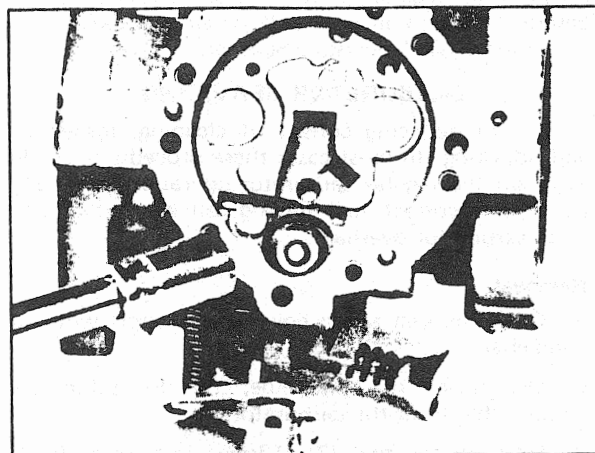

FIGURE 6
- Remove the inlet needle seat assembly with a 5/16" thin wall socket wrench. (Fig. 6).